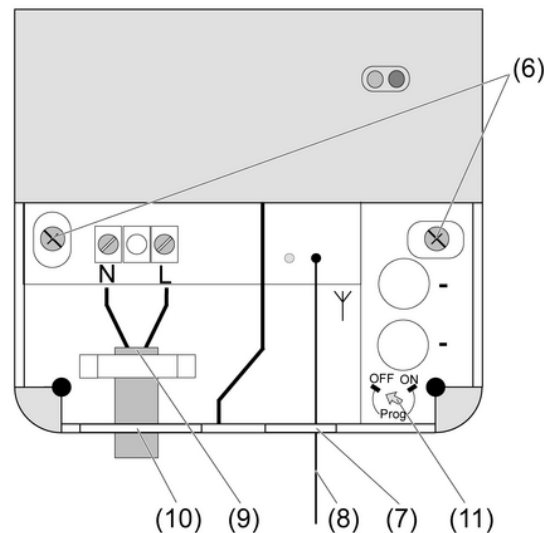

Figure 5
- Turn **Prog** switch (11) to the **ON** position (Figure 5).